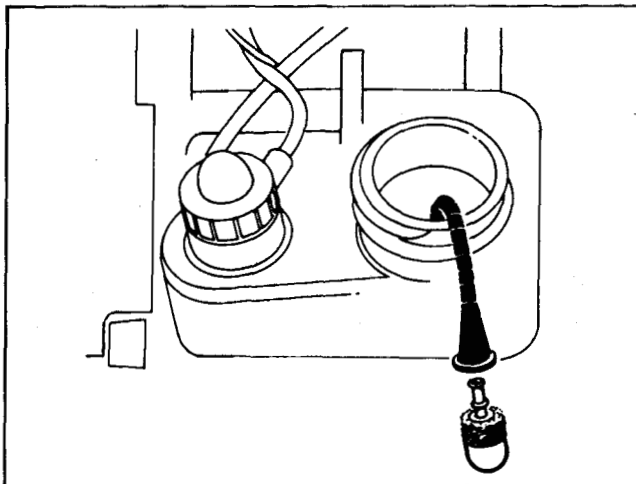

Figure 43
1. The fuel filter on the pickup tube can be inspected without removing the pickup assembly by "fishing" the filter out through the filter hole. See Fig. 43.